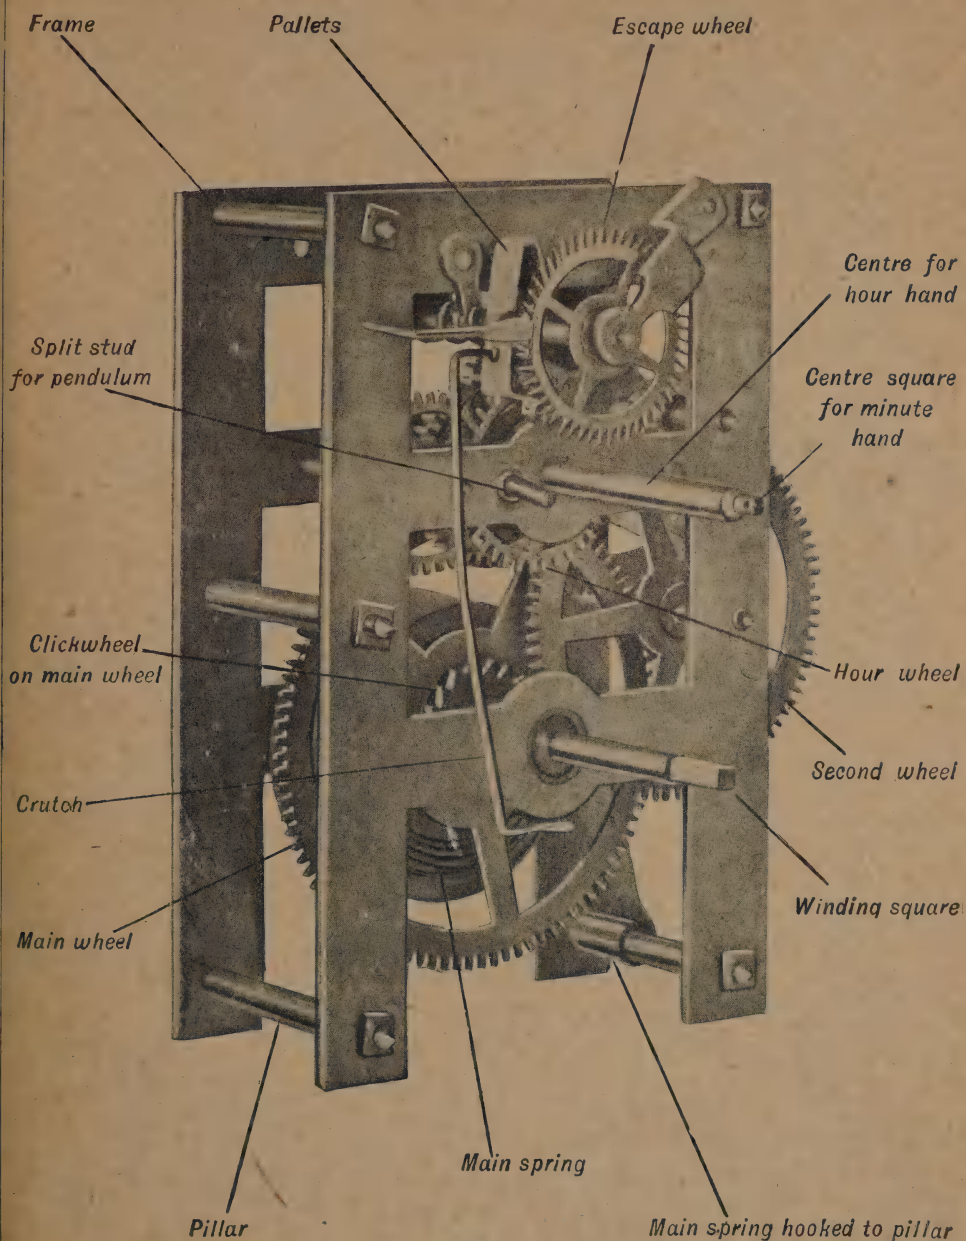

Fig. 1.—Photograph of Cheap American Clock Movement (Motion-work Side).
The amateur is accustomed to regard the mechanism of a clock as something that is either mysterious or remarkably complicated. As a matter of fact, the ordinary clock—such, for example, as the German or American wood-cased one, the movement of which is shown by Figs. 1 and 2—is quite a simple machine entirely lacking in mystery, and the reader should disabuse his mind of the idea that it is at all mysterious. Figs. 4 and 5 are diagrammatic plan and elevation of the actual movement that is shown photographically by Figs. 1 and 2. The motion is derived from the mainspring which turns the main-wheel axle or arbor to which it is fixed. The main wheel drives a pinion on the shaft of the second wheel, which wheel, in turn, drives (1) the pinion on the axle of the third wheel, and (2) the wheel on the arbor of the minute hand. Taking (1) first, the third wheel drives the escape wheel by means of the pinion on the arbor of that arbor, but the speed of the escape wheel is regulated by the escapement, which consists of a pair of pallets which allow only one tooth to pass at a time. To the